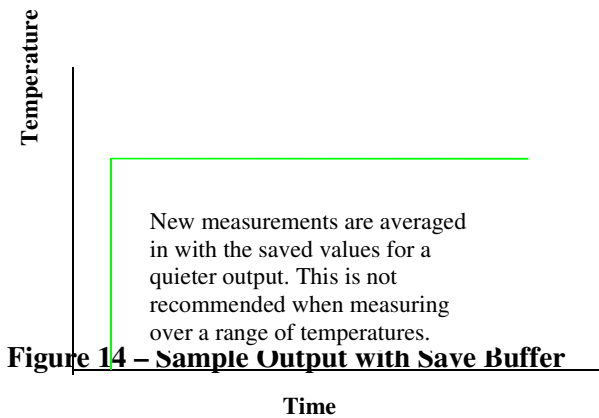

Figure 14 – Sample Output with Save Buffer
- The **setup mode** provides **view-and-edit access** to all sensor parameters. Figure 14 provides a description of the entire menu system organization.